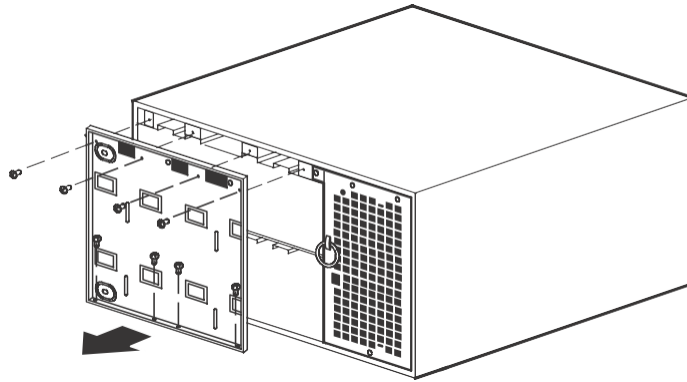

Figure 26. Removing the UPS Battery Cover Plate
3. Remove the eight screws on the battery cover plate and retain. Remove the plate and retain. See Figure 26.